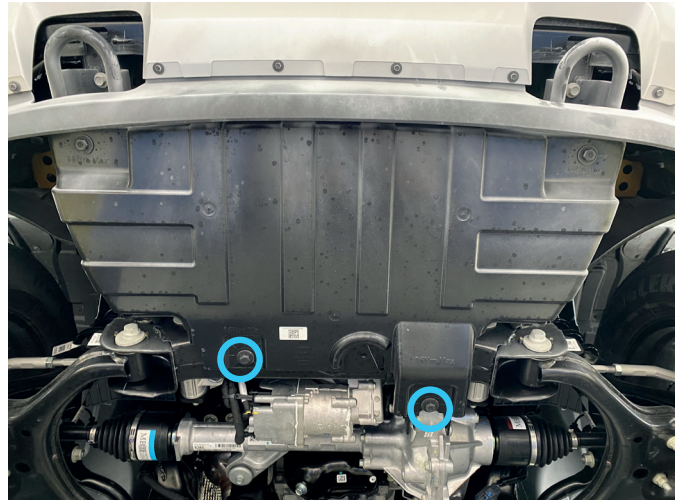

Fig. 2
**\*\*If the vehicle has radiator skid plate, loosen the rear bolts of radiator skid plate or bolts of RIVAL radiator skid plate 2111.1884.1.3 / 2333.1884.1 / 2333.1884.1.6 (fig.2).**